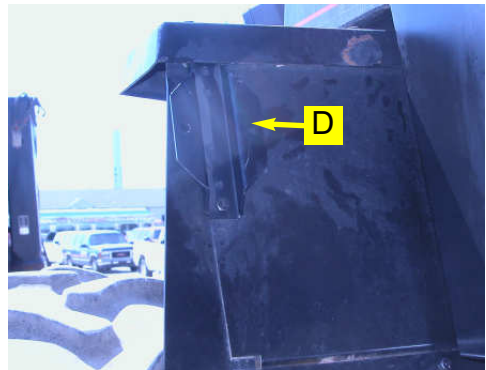

Figure 2b. Installed mounting bracket.
- c. Use the provided hardware (E) to attach the mounting bracket to the fender. (Figure 2b.)